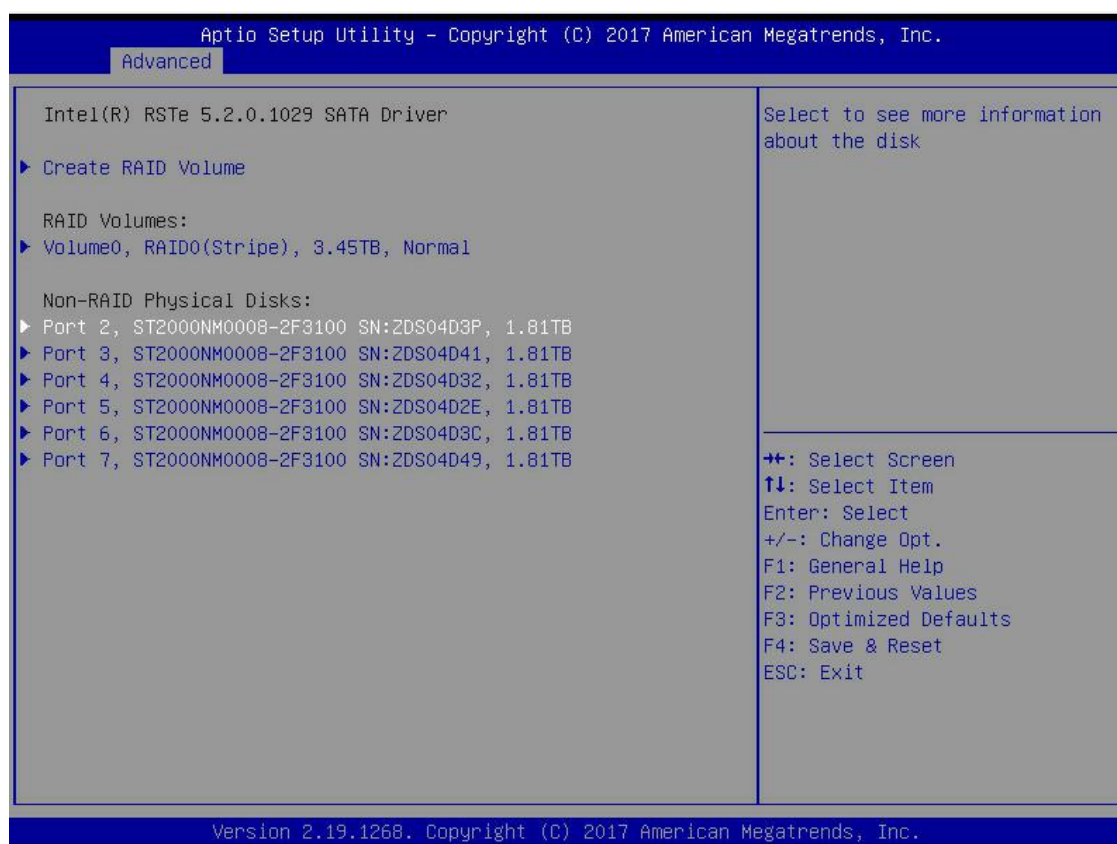

Fig. 6.8
a) As shown in Fig. 6.8, select the disk to be configured as a hot spare and press Enter.